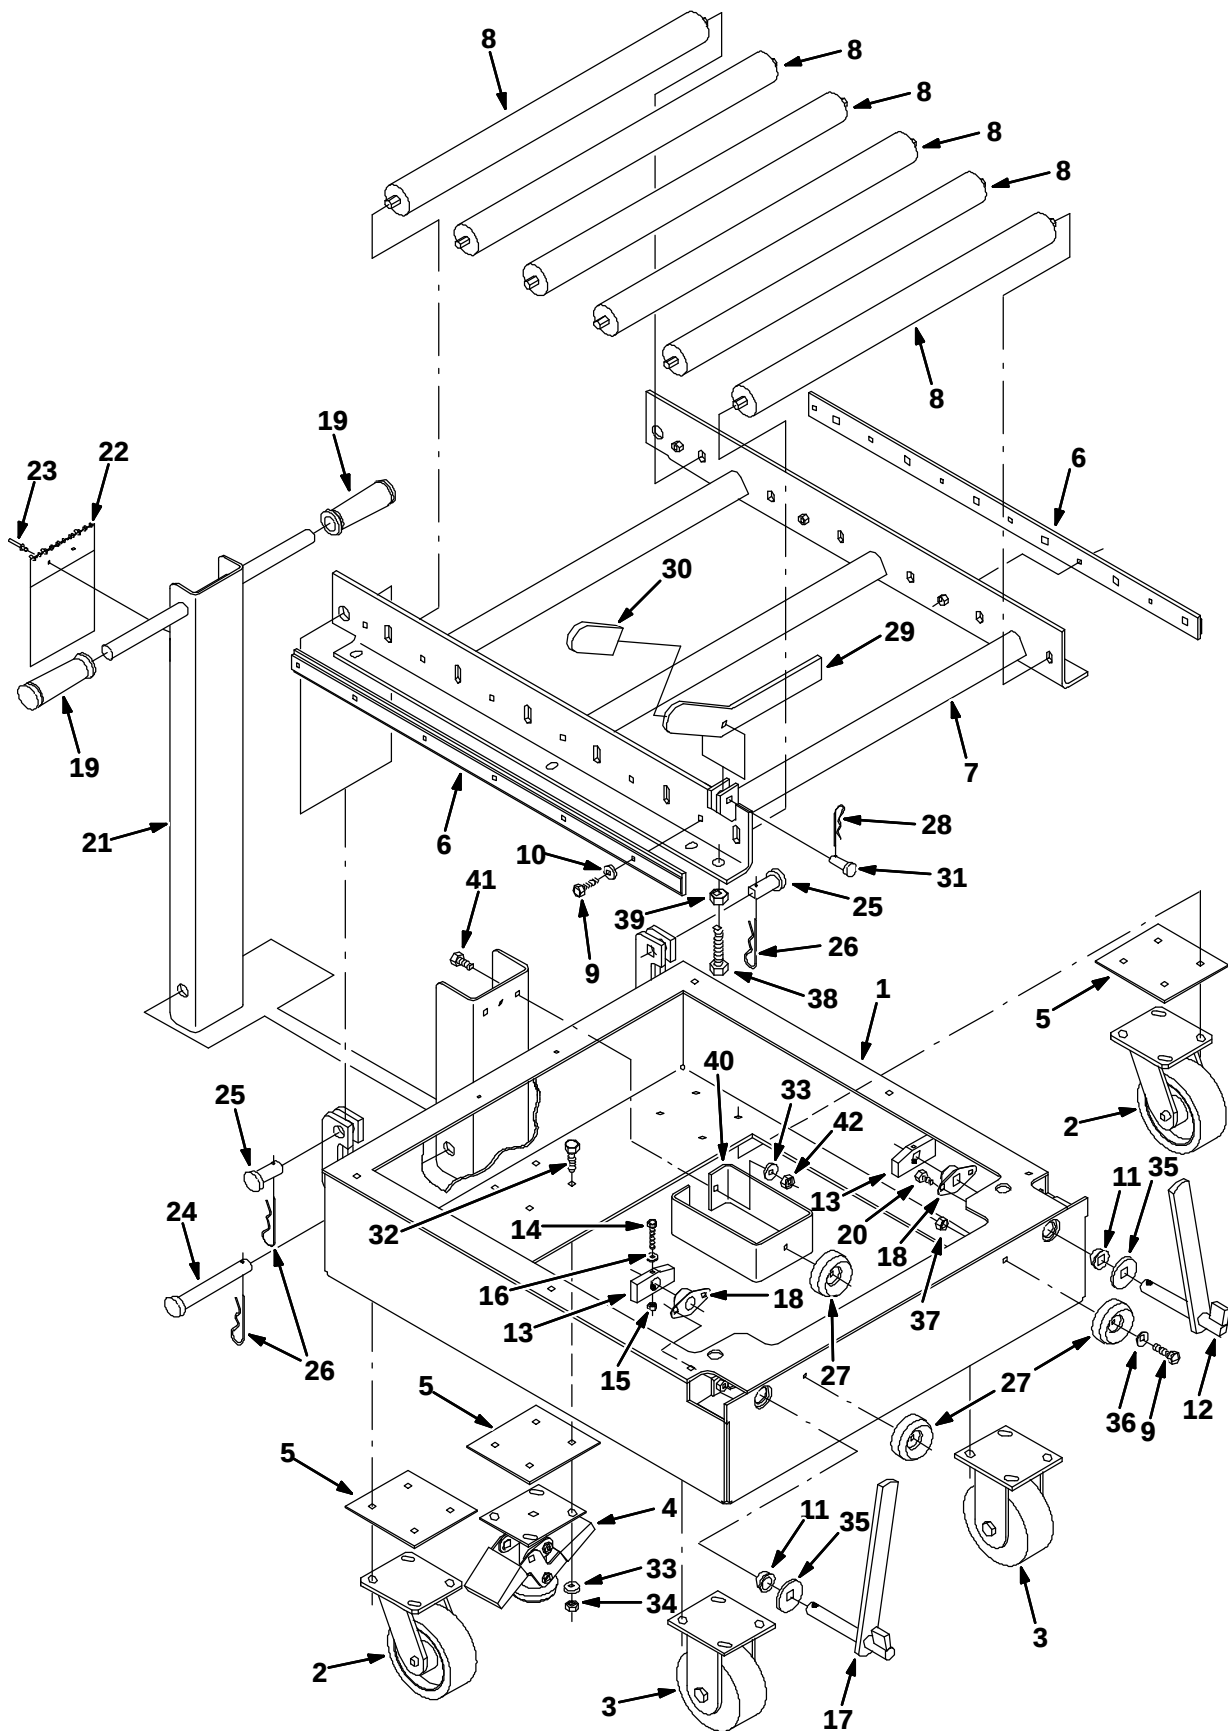

FIG. 1 Breakdown of Battery Rollout Dolly Kit 369362
(Refer to FIG. 1)
1. Mount the battery cart handle to the front of the battery cart in the vertical channel using the clevis pin (24) and cotter pin (26). (Refer to FIG. 1)
3. Mount the battery stop bar in the rear mounting location with the clevis pin (31), and cotter pin (28). The longer end of the stop bar should be pointing toward the inside of the cart, with the opposite covered end pointing upwards. (Refer to FIG. 1)
1. Remove the battery case stop bracket (40) from the frame weldment. (Refer to FIG. 1)
2. Remove the rubber bumper (27) from the stop bracket (40). Set mounting hardware aside. (Refer to FIG. 1)
3. Mount the rubber bumper (27) to the center hole of the vertical channel with set aside hardware. Discard the removed stop bracket (40) and its mounting hardware. (Refer to FIG. 1)